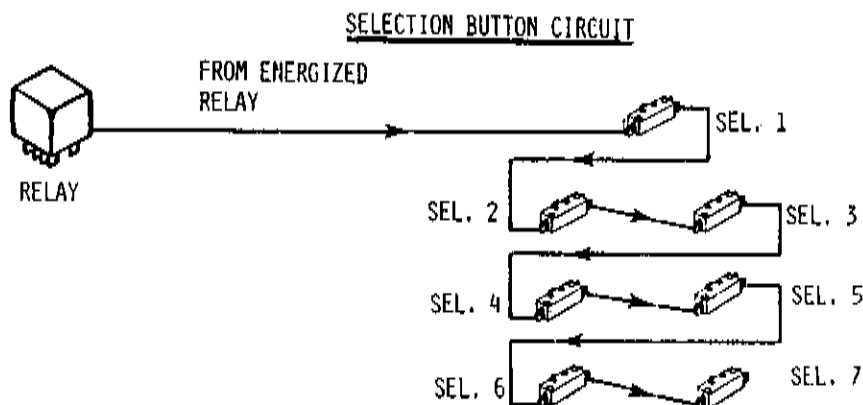
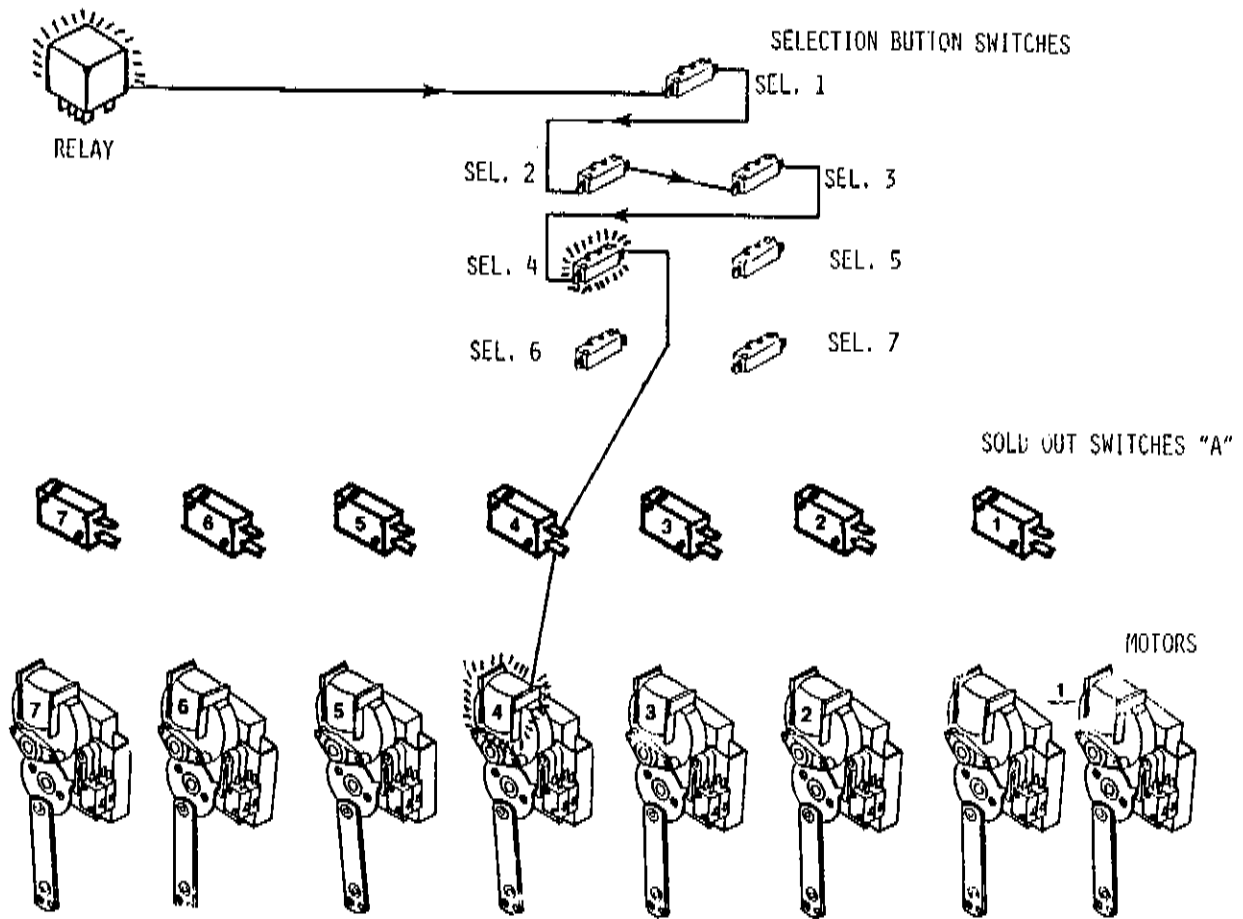

FIGURE 2
FIGURE 4
2. WHEN THE COINAGE CIRCUITS RETURN TO STANDBY, THEY PROVIDE A SELECTION CIRCUIT THROUGH THE VENDER CREDIT RELAY ENERGIZED TO ALL SELECTION BUTTON SWITCHES (SEE FIGURE 2).
EACH SELECTION BUTTON SWITCH IS CONNECTED TO ITS MOTOR THROUGH ITS SOLD OUT SWITCH "A". IF THE VENDER CREDIT RELAY IS ENERGIZED, ALL SELECTION BUTTON SWITCHES ARE CONNECTED LI (LINE-ONE) STARTING WITH SELECTION ONE AND CONTINUING THROUGH #2, #3, #4, #5, #6 AND #7, AS SHOWN IN FIGURE 2. WHEN ANY SELECTION BUTTON SWITCH IS OPERATED, THIS LI (POWER) WILL BE DIRECTED TO THE MOTOR SELECTED THROUGH ITS SOLD OUT SWITCH "A" (SEE FIGURE 4).